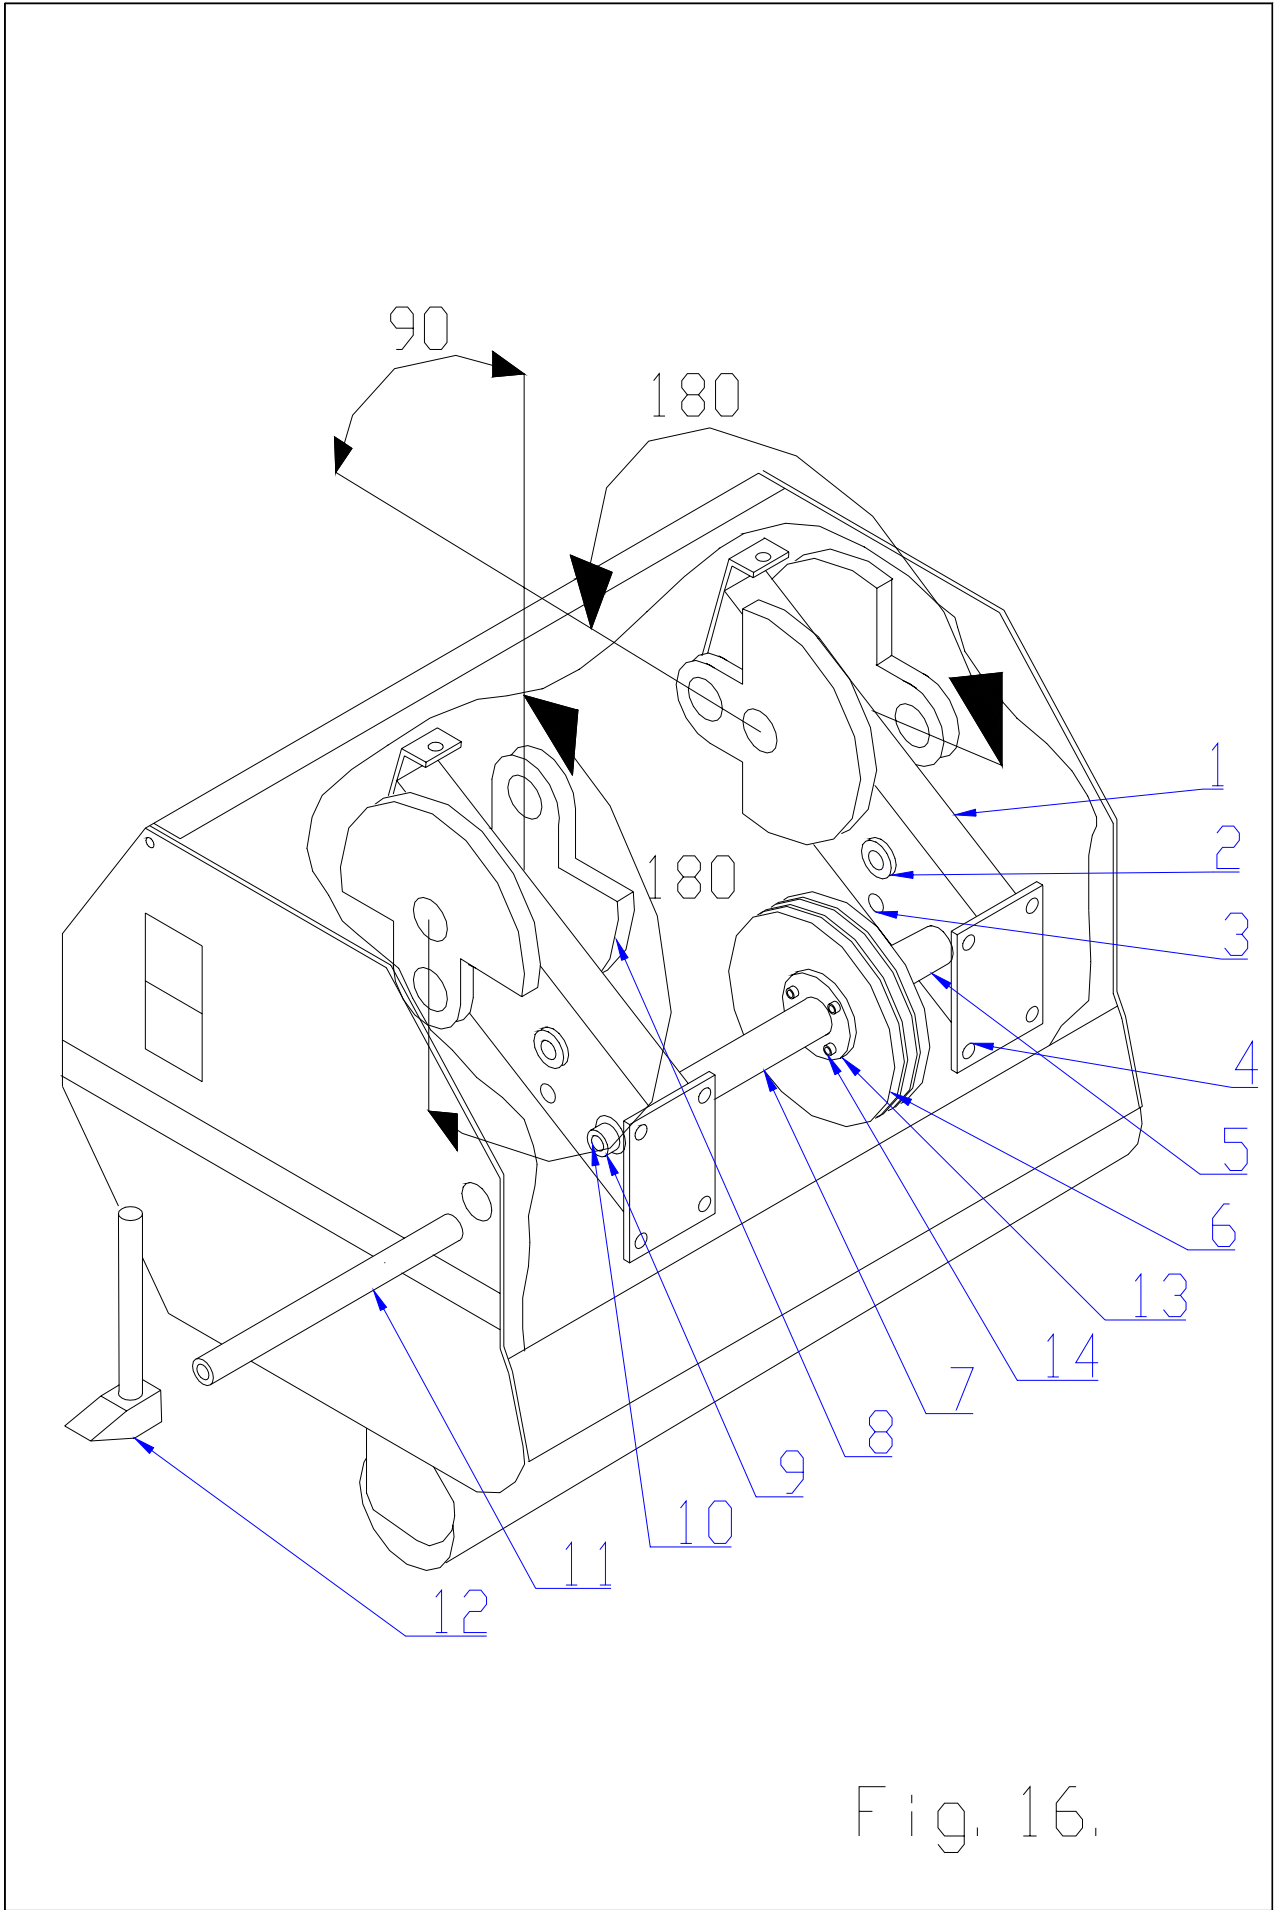

Fig. 16.
Some key notes. See Fig.16.:
- The central splined shaft 10 connects both gearboxes to each other and to the V-belt pulley. The timing from one gearbox to the other is determined during assembling this central shaft. Check carefully the timing, as is given in fig. 16. Only this one (perfect) setting is right. The main shaft has to be tightened with nuts 9 at each side. Bushings 5 and 7 and pulley 6 with tapered washers 13 should fill the space between the gearboxes. If new components are used, the gearbox with the slotted holes 4 may need to be repositioned, in order not to create extra forces. If the same components are used, people can feel whether the components fit tight. Then there is no need for repositioning.